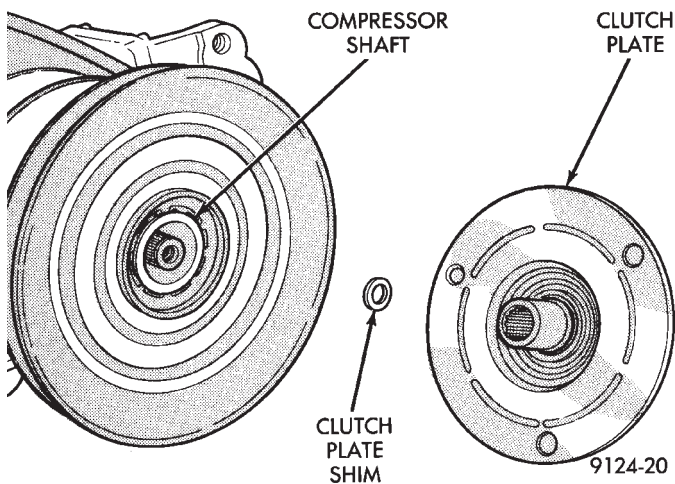

Fig. 2 Clutch Plate and Shim(s)
- (3) Tap the clutch plate with a plastic hammer and remove clutch plate and shim (Fig. 2).